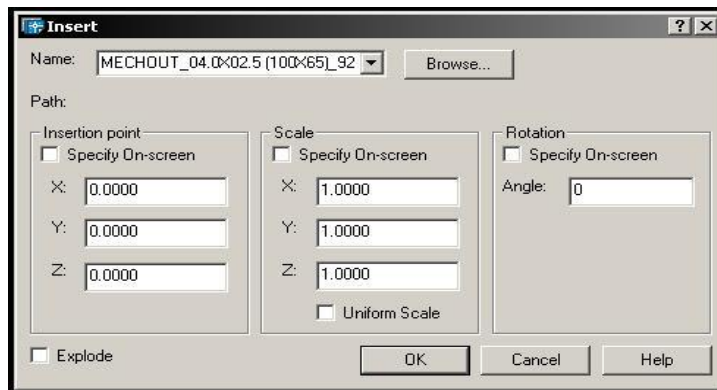

Fig. 8
There are two (2) ways to insert the desired block. You can “drag and drop” the block into the drawing or double-click the block to bring up the **Block Insertion** dialog box (Fig. 8).